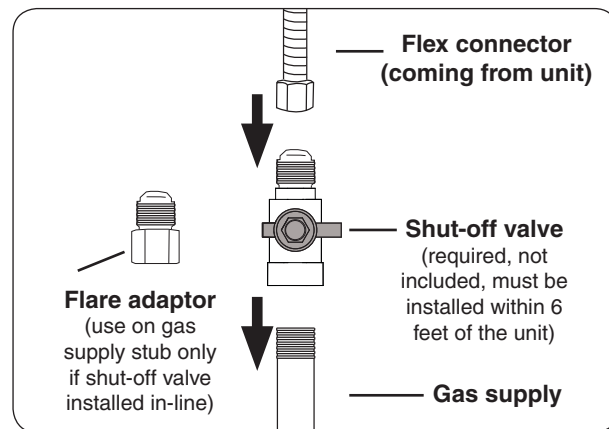

Fig. 20-3 Connecting to a gas line
- Connect the flex connector to the shut-off valve (see Fig. 20-3). Tighten securely.
- Install the supplied flare adapter to the gas supply using a pipe joint compound resistant to all gasses (see Fig. 20-3). Tighten securely.
- Connect the flex connector to the flare adapter (see Fig. 20-3). Tighten securely.